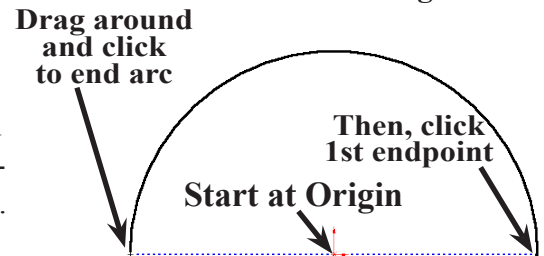

Fig. 2
Step 4. Click the Origin  to start the arc and move the cursor to the right. Click to place the first end point, then move cursor counterclockwise 180 degrees. Click to place the second end point, **Fig. 2**.